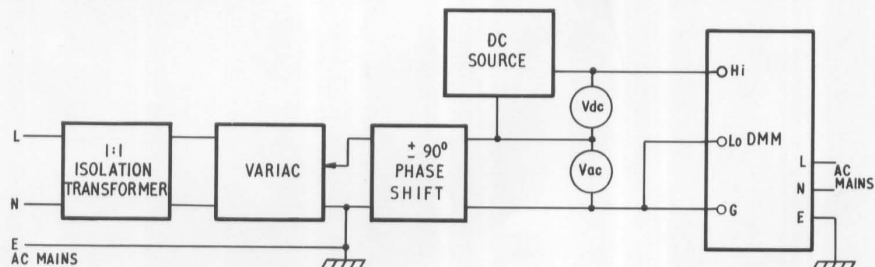

Fig. 4.2. Interference Rejection:- Series Mode Test Circuit.
1. Connect instrument as shown in Fig. 4.2.